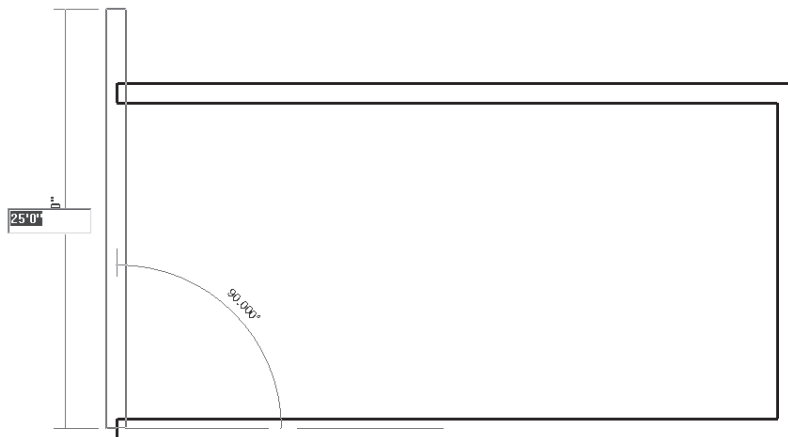

Figure 3-34 Sketching the fourth exterior wall segment
6. You have enabled the **Chain** option and so the next wall segment automatically starts from the last specified point. Hold the SHIFT key and move the cursor vertically upward. Enter **25'0"** to create a vertical wall segment, as shown in Figure 3-34. The fourth wall segment is created, as shown in Figure 3-34.